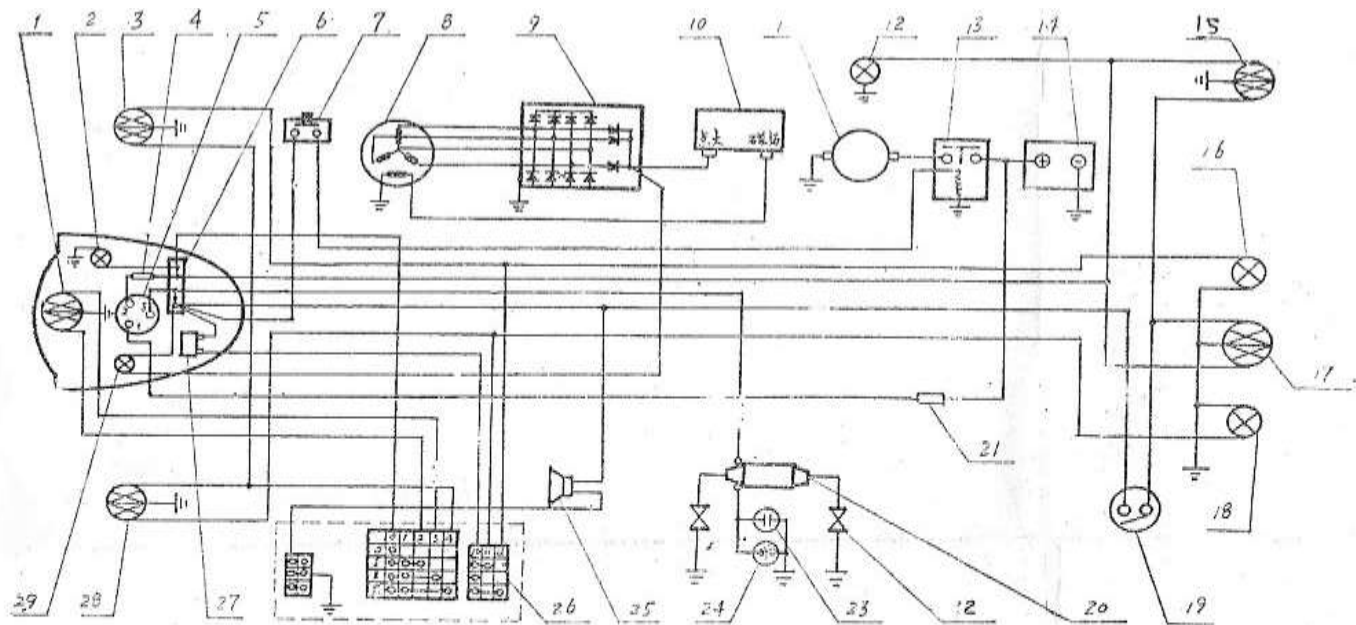

Fig.15 Circuitry of the Motorcycle Powered by Engine CJ—750(MIM)
5.1.2 Generator MJF-280B complemented with engine CJ-750MIM is a negatively grounded AC generator, whose rated power is 280w, rated voltage is 12v. The motorcycle circuitry is shown in Fig 15.